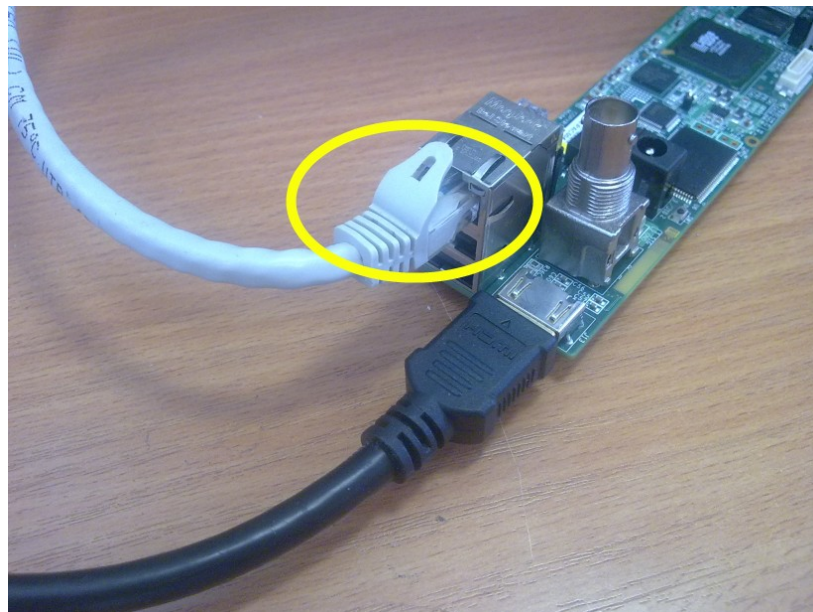

Figure 11. Ethernet cable connection
2. After that you can connect your Host device to Lattice HDR60 board using ethernet cable as shown on Figure 11. Please check the connection speed: only 1Gbit/s is supported.